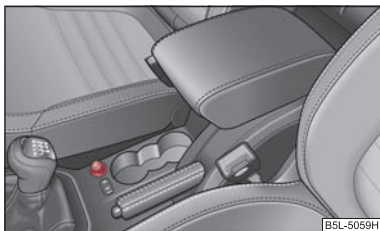

Fig. 87 Centre console: Cigarette lighter
- Press in the button of the cigarette lighter ⇒ fig. 87.